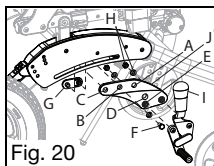
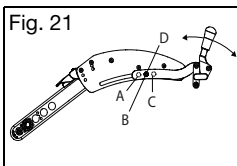

Fig. 20
Fig. 21
1. For a standard axle plate, use a 10mm wrench or socket to loosen (do not remove) the hex bolt (Fig. 20:F). For a self-propel axle plate, use a 5mm Allen wrench to loosen the socket head cap screw (Fig. 21).
2. Slide the mount (Fig. 20:J) forward or rearward to achieve proper locking.
3. The screw may be completely removed and the slide nut (Fig. 20:G) can be mounted in alternate holes (A & B or B & C) to optimize the adjustment range. It is recommended that the threaded hole of the slide nut is positioned in either hole A or B.
1. Use a 10mm wrench or socket to remove the hex bolt (Fig. 20:F) and remove the wheel lock assembly from the chair.
2. Use a 10mm wrench or socket to remove the nuts and washers (Fig. 20:H) from the wheel lock studs and remove the wheel lock (Fig. 20:I) from the mount.
4. Reinstall the wheel lock onto the side frame and into the slide nut (Fig. 20:G). The slide nut can be positioned in holes A & B or C & D to optimize the adjustment range. It is recommended that the threaded hole of the slide is positioned in either hole A or B.